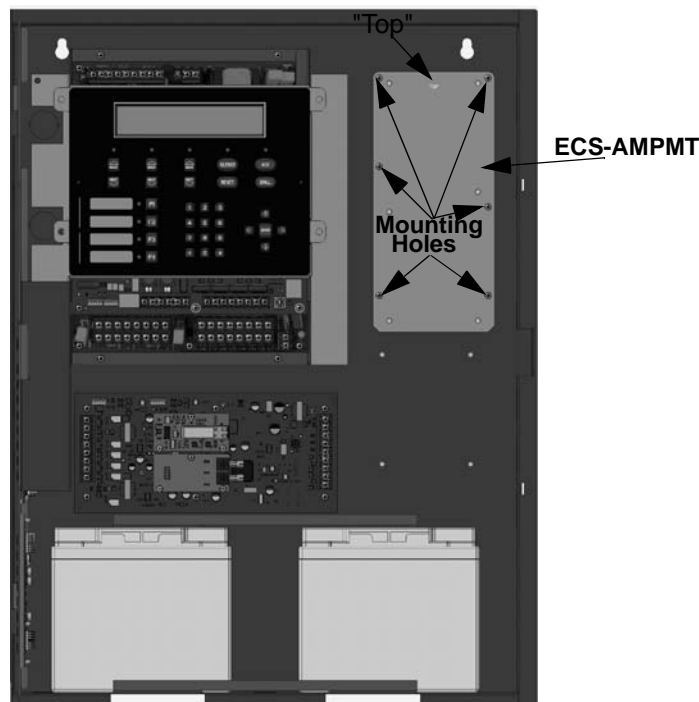
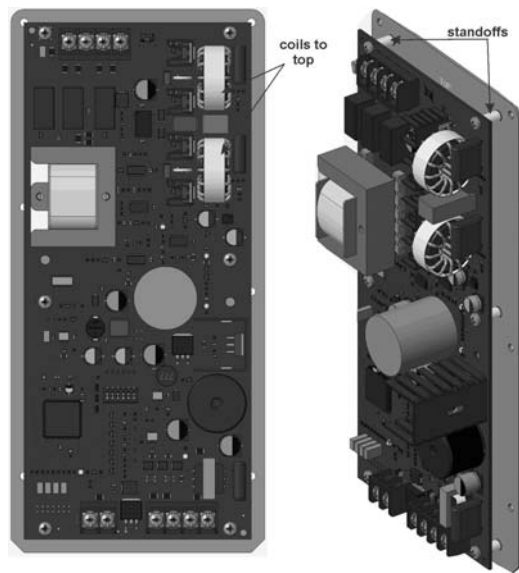

Figure 4-35 ECS-AMPMT installed in Cabinet
Figure 4-36 ECS-INT50W Installed using the ECS-AMPMT
4. Mount the ECS-AMPMT plate into the cabinet using the six supplied screws. Orientate with "Top" side up. (see Figure 4-35). Secure the ECS-INT50W onto the six standoffs, making sure the two coil parts are at the top, and on the right side of the ECS-AMPMT. See Figure 4-36 and Figure 4-36 for coil position.